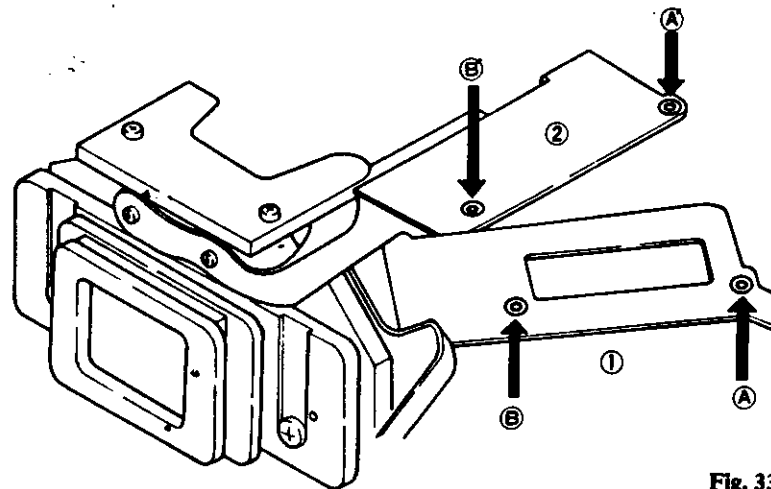

Fig. 33
- 12) Put **A'** portion of **CIRCUIT BOARD (No. 2)** upon **A** portion of **CIRCUIT BOARD (No. 1)** shown in Fig. 33 and put **B'** portion upon **B** portion.
- 13) After setting the **CIRCUIT BOARDS (Nos. 1, 2)** as shown in Fig. 33, solder seven parts cleanly.